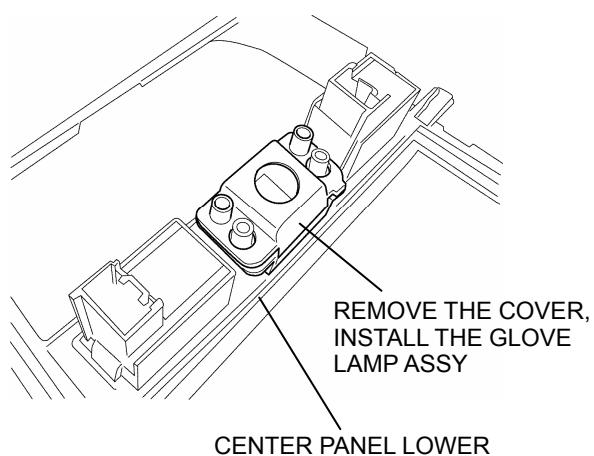

FIGURE 14
4. Remove the cover and install the glove lamp assy. (refer to Figure 14)